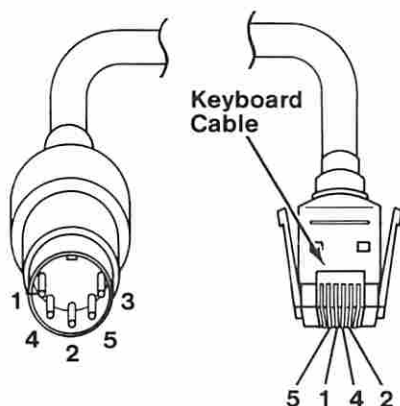

Figure 6. Continuity Check
- Check the keyboard cable for continuity as shown in Figure 6 on page 0300-10.